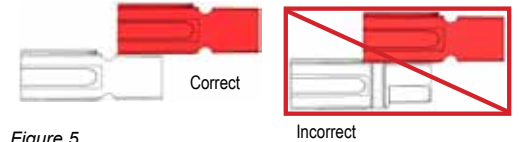

Figure 5
- Block Powerpole® housings by interlocking dove tails to create individual rows (See Figure 5)